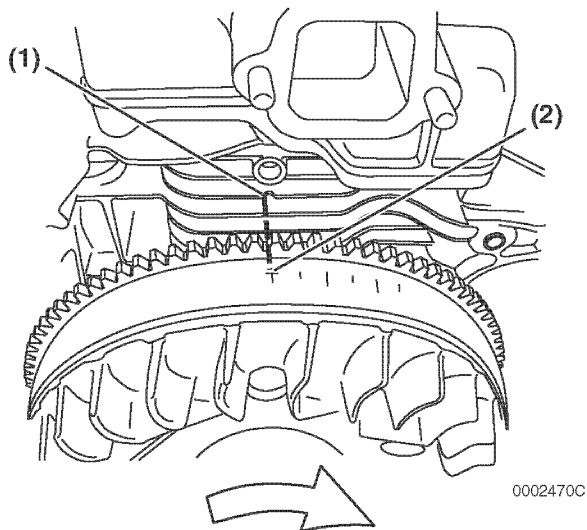

Figure 6-23
1. Rotate the flywheel until the TDC (Top Dead Center) mark on the flywheel (**Figure 6-23, (2)**) aligns with the left-hand edge of the timing reference "notch" on the cylinder cooling fin (**Figure 6-23, (1)**).